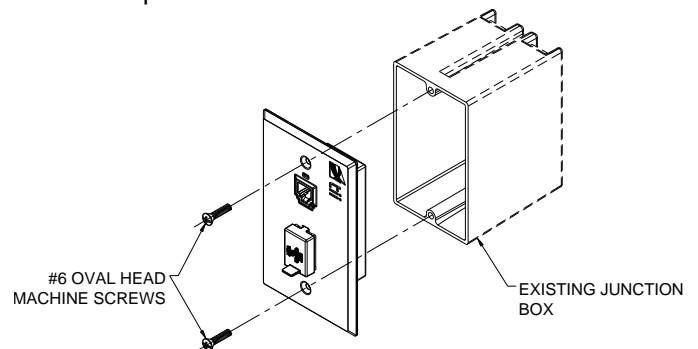

Figure 2
4. Dress the wires properly inside the junction box and secure the 764 to the junction box using the supplied #6 oval head screws as shown in Figure 2.